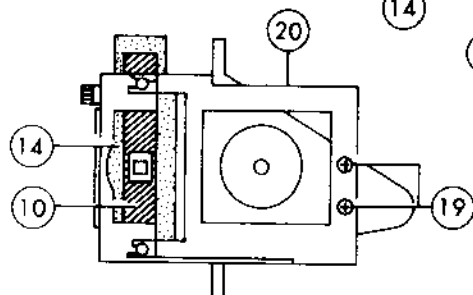

Fig. 26
7. Install the masks of 14 and 10 at positions shown in Fig. 26 while adjusting with (2) x 2 pcs.